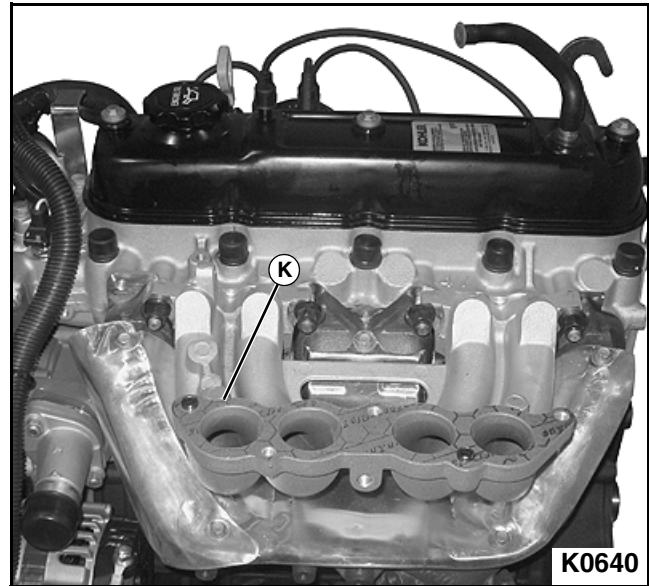

Figure 3-68
7. Remove old intake manifold gasket (K) from lower intake manifold. **See Figure 3-68.**